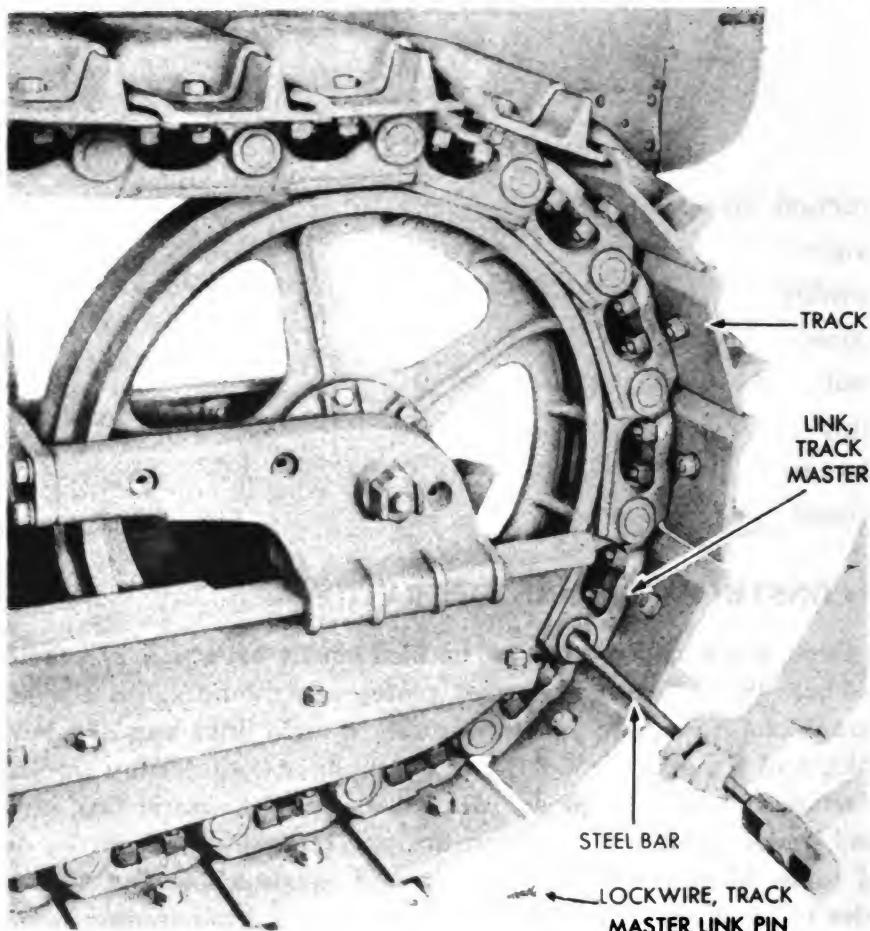

Figure 155 – Master Link Pin Removal
(1) **REMOVE TRACK MASTER LINK PIN** (fig. 155).
(a) Position tractor so master link pin of track to be removed is at front of idler (fig. 155).